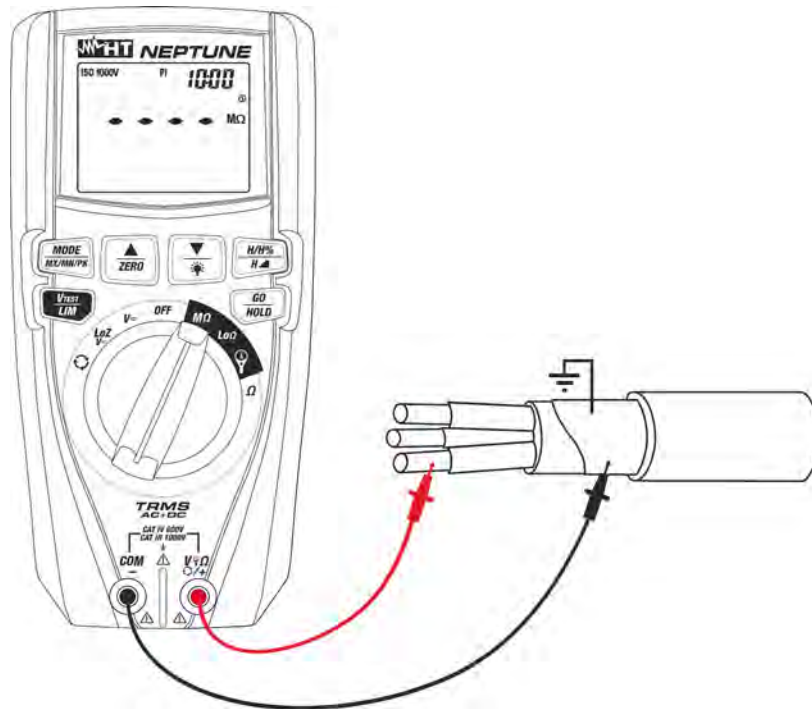

Fig. 22: Use of the instrument for insulation resistance measurement in PI mode
6. Insert the red lead into input terminal **VΩ** and the black lead into input terminal **COM** and possible alligator clips, and connect the instrument to the appliance to be tested (see Fig. 22).